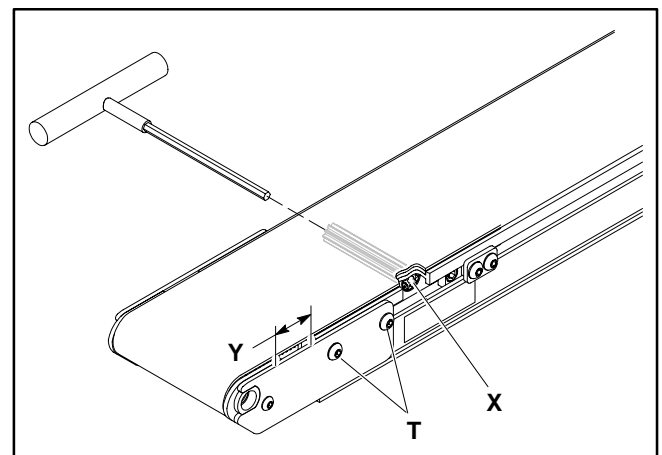

Figure 8
8. Tighten connector strip screws (V) to 18 in-lb (2 Nm). Tighten bracket screws (W) to 80 in-lb (9 Nm).
9. Insert a 5 mm hex key wrench into either end of the pinion gear (X of Figure 8). Rotate the pinion gear to extend the tensioning end gap (Y) to 1.19" (30 mm).